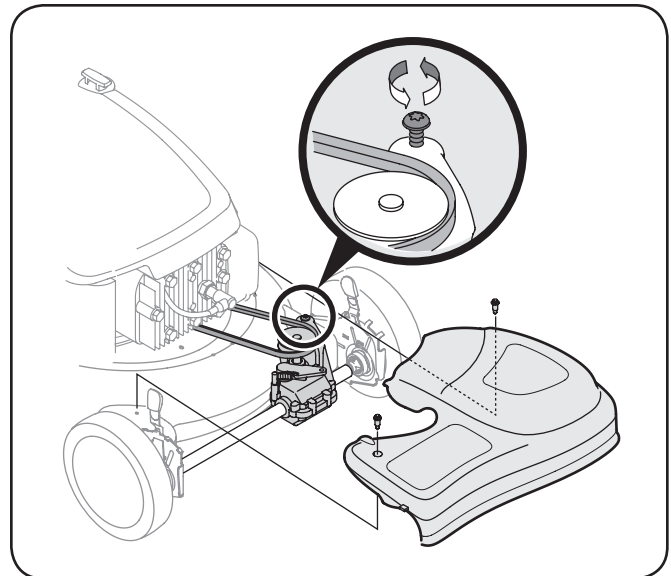

Figure 7-2
1. Remove two shoulder screws securing front drive cover to mower deck. See Figure 7-2. Press inward on sides of front drive cover and release tabs that secure it to the height adjuster brackets. Remove drive cover from mower.
2. Loosen screw holding belt tension spring to transmission. See Figure 7-2 inset. Do not remove screw completely. As you loosen it, tension on the belt will be released.